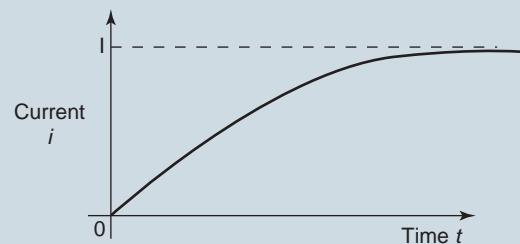

Figure 20.21
- The graph shown in Fig. 20.21 represents the growth of current in an $L-R$ series circuit connected to a d.c. voltage V volts. The equation for the graph is: